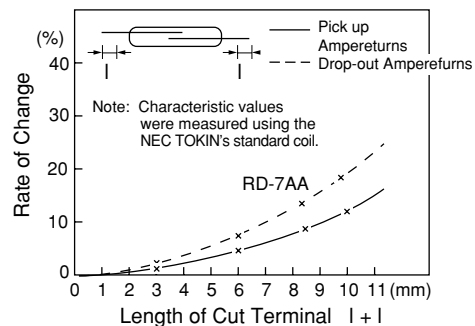

Fig. 3 Example of variations in pick-up and drop-out values resulting from cutting of terminal
- 5) The terminals of the reed switch form a part of a magnetic circuit. If the terminals are cut, the pick up and the drop-out value increase, as shown in Fig. 3. Please note that similar results will be expected even if the terminals are bent.